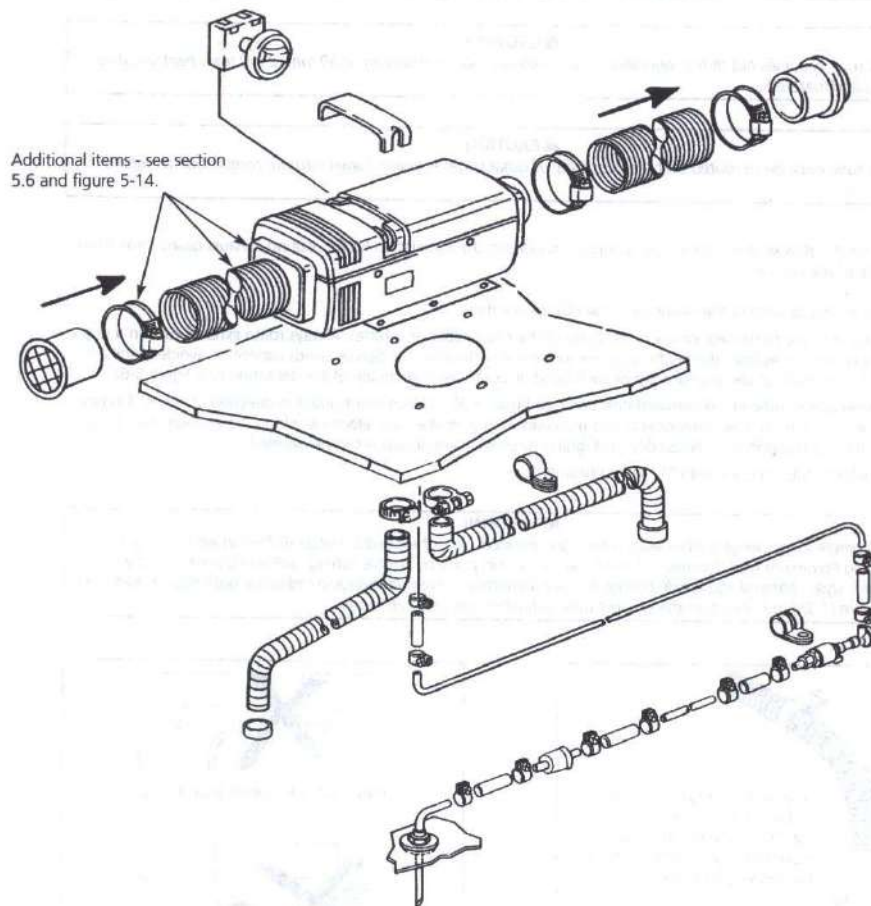

Fig. 5-4: Installation Diagram Showing Component Break-down - Air Top 2000
1. Assemble heater with combustion air intake tube, exhaust tube and fuel line (see figure 5-4).
2. Install combustion air tube, exhaust tube and fuel line from underside of vehicle (see figure 5-4).